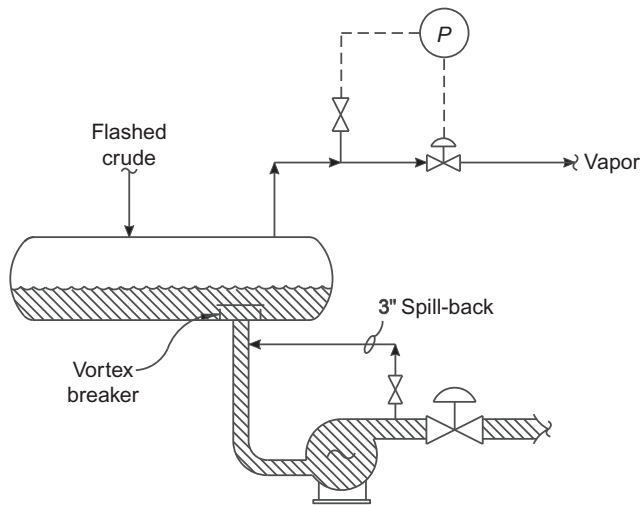

FIG. 30.1 Typical pump installation.
- Open the discharge-to-suction spill back line (see Fig. 30.1).
“The 0.3 coefficient assumes no vortex breaker on top of the nozzles.” (see Fig. 30.1)